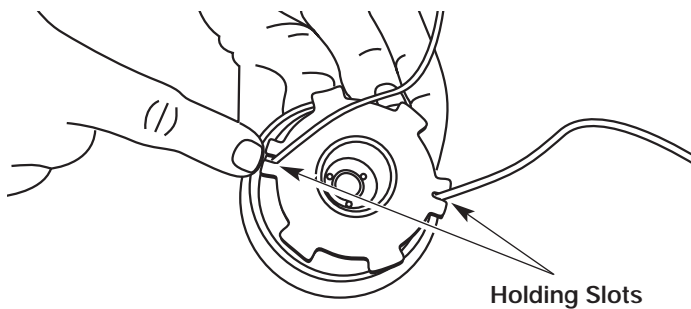

Figure 19
12. Insert the ends of the line into the two holding slots. See Figure 19.